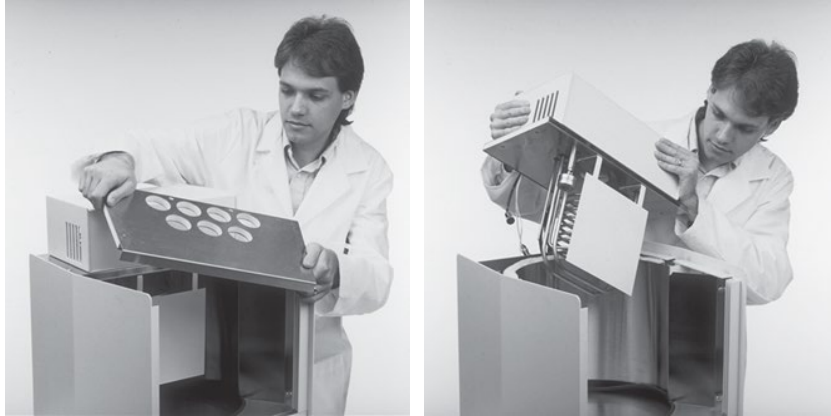

Figure 7: Remove Top and Rear Top Covers
4. Remove the front top cover and rear top cover. Carefully remove the rear top cover as the temperature control probes and heating elements are attached to it, as shown in Figure 7.